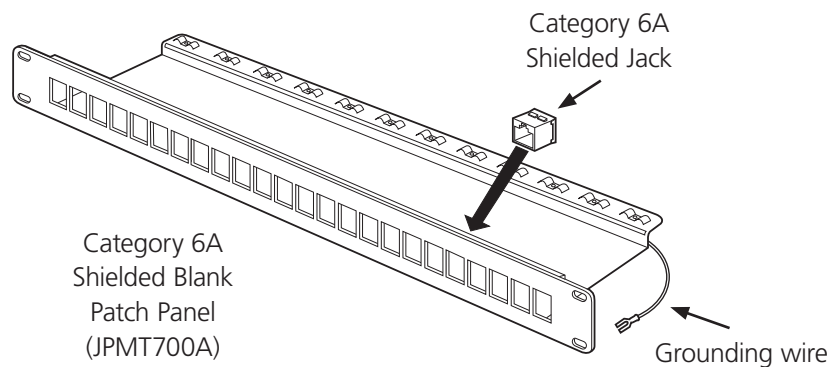

Figure 2. Installing the jacks into the patch panel.
2. Connect the grounding wire from the patch panel to the relay rack or cabinet. See Figure 2.
4. Insert the terminated jacks into the unloaded patch panel. See Figure 2. The locking tab goes in the up position.